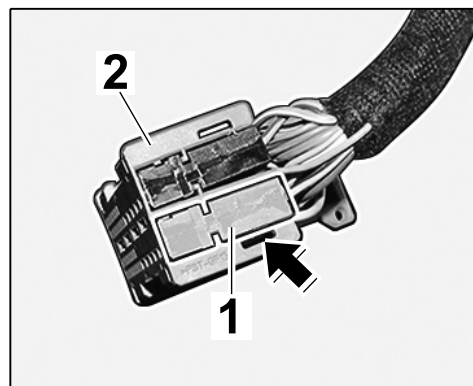

Figure 20
- 3.10.1 Press down the locking mechanism ⇒ *Figure 20-arrow-* and push the grey plug socket ⇒ *Figure 20-1-* out of the plug carrier (coding: blue) ⇒ *Figure 20-2-*.